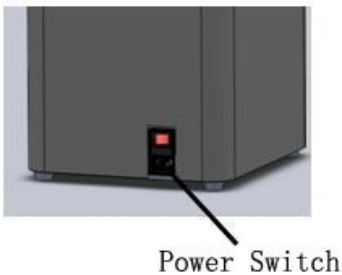
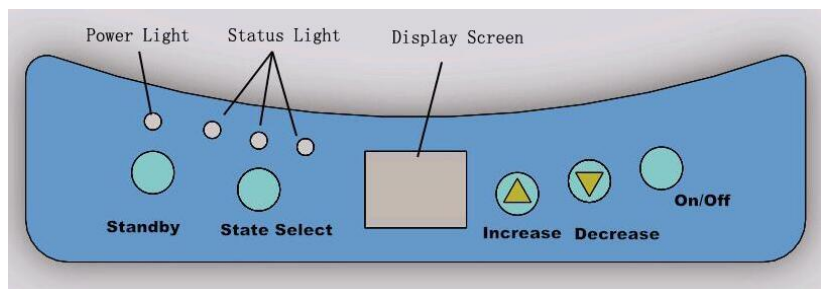

Figure 1.
Figure 2
1. Plug in the power cord, turn on the Power switch on the back of the machine, the light turns on, see Figure 1. Meanwhile The power indicator light on the control panel will be light, see figure 2.
panel will be light, see figure 2.
6、 Set the mixing time according to the amount of impression material, see Figure 2